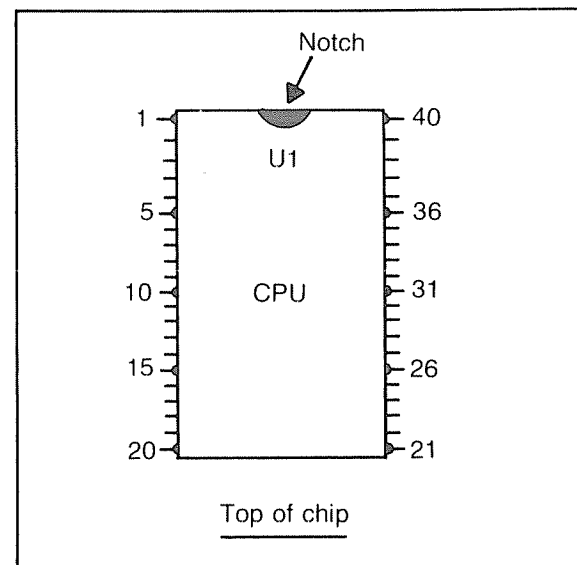

Fig. 3-7. The notch or dot on the end of the chip is the keyway indicator. The pin numbers are counted starting with 1 on the immediate left of the notch.
- The location of all the chips. If a chip has a dot or notch on one end, mark that on the guide. Pin 1 will be found immediately to the left of the marking (Fig. 3-7).